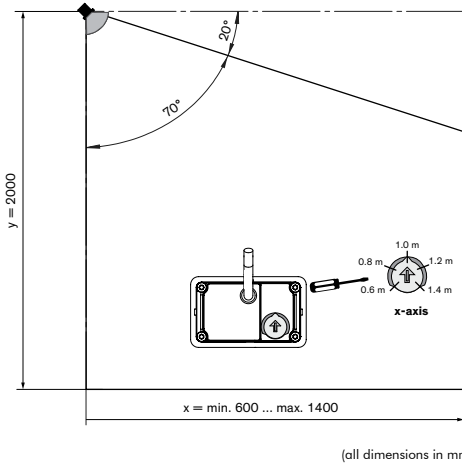

Figure 3: Detection area using potentiometer
- ▶ The scale is not printed on the sensor. However the potentiometer can be adjusted in five fixed steps of 0.2 m; starting at 0.6 m (at the 7 o'clock position) up to 1.4 m (at the 5 o'clock position); see Figure 3 below.